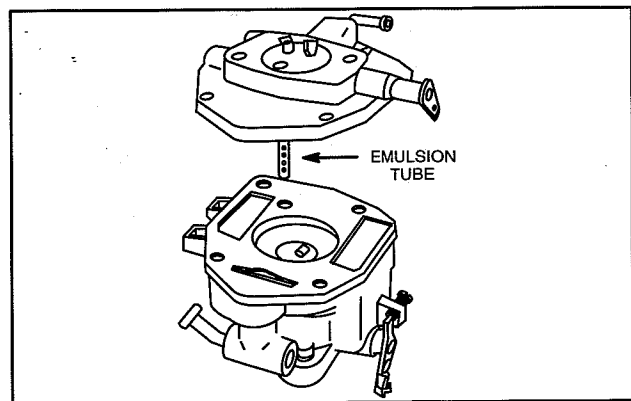

Fig. 79 – Remove Upper Body
1. Remove four screws and upper body, Fig. 79.